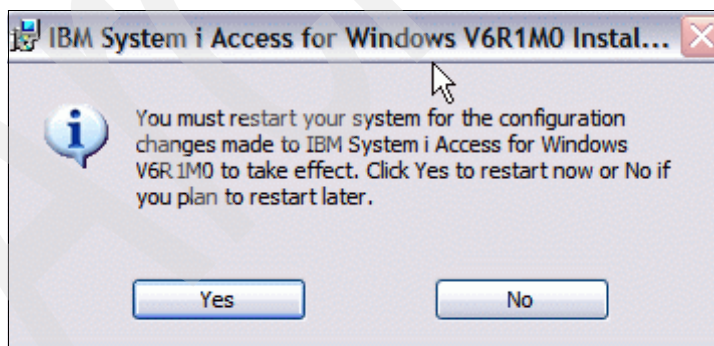

Figure 5-18 IBM System i Access for Windows Reboot
11. To finalize the IBM i Access for Windows installation a reboot is required, as indicated in Figure 5-18.